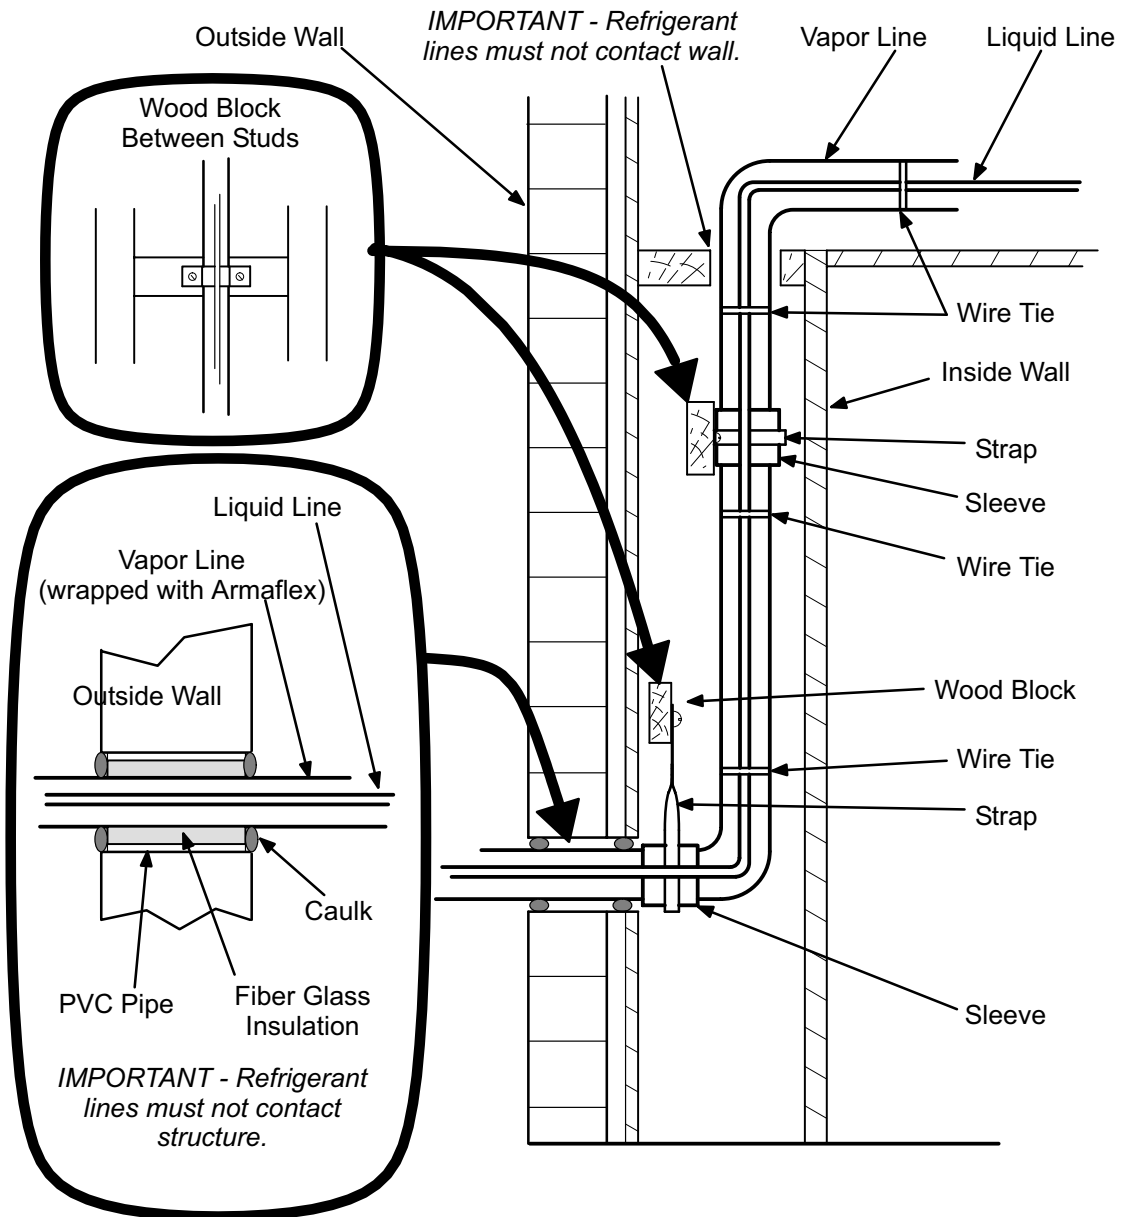
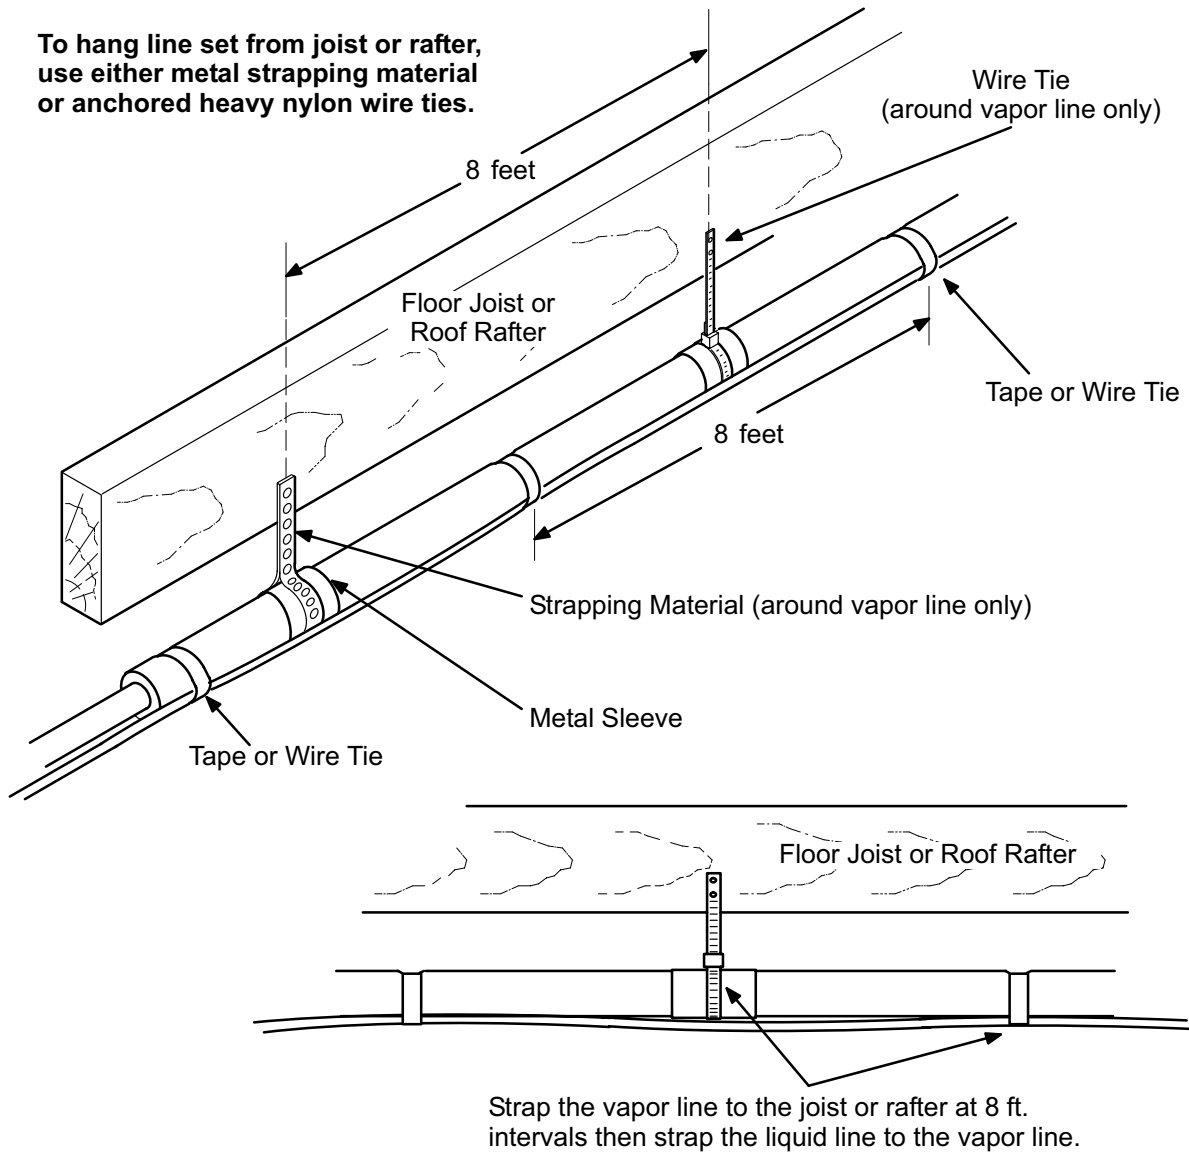
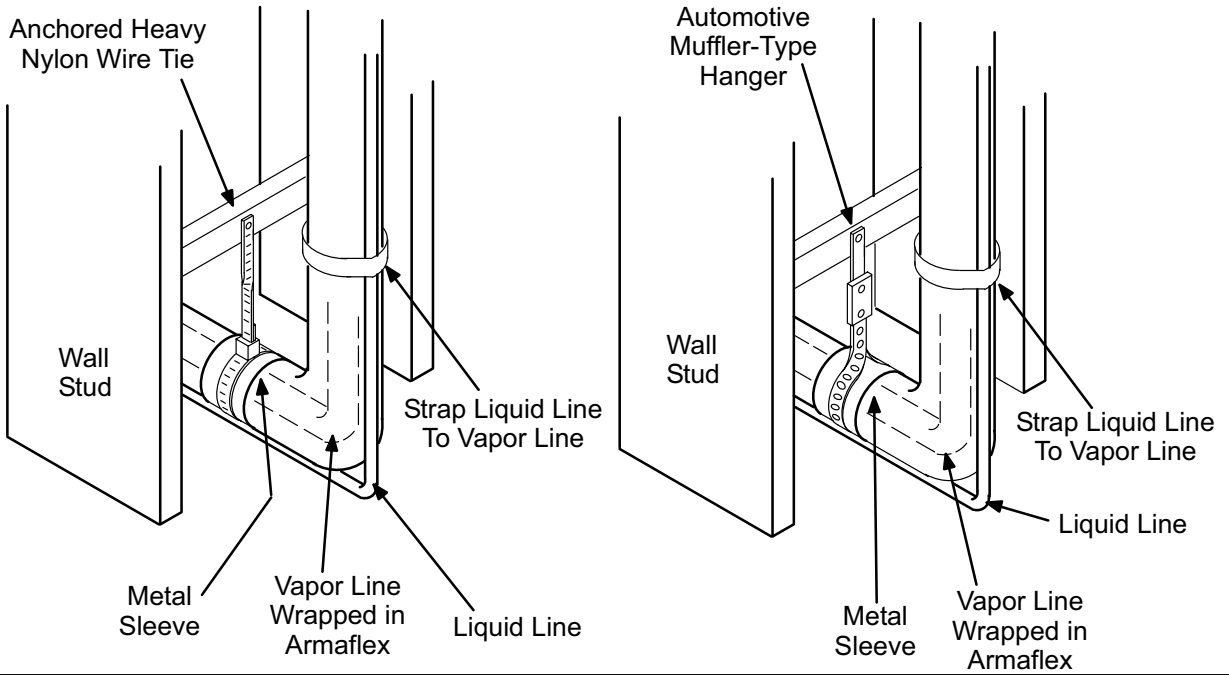
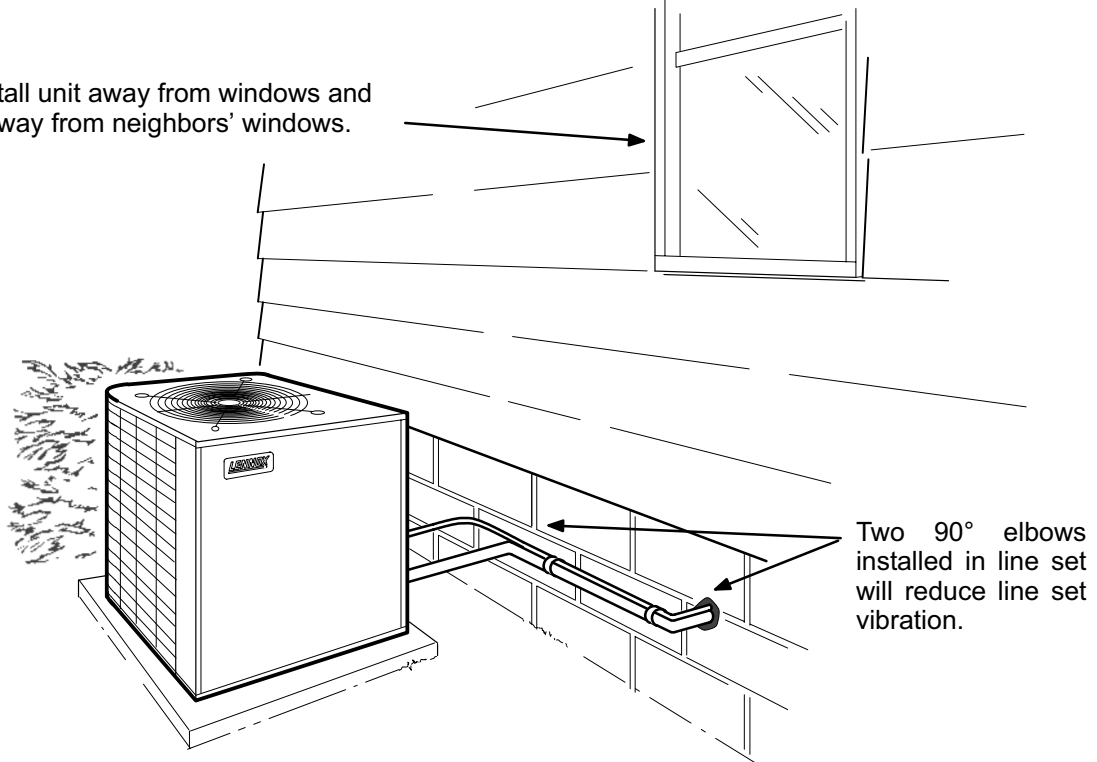

Figure 7
Figure 8
Figure 9
Figure 10
- 2- **Line Set Isolation** - The following illustrations demonstrate procedures which ensure proper refrigerant line set isolation. Figure 7 shows how to install line sets on vertical runs. Figure 8 shows how to install line sets on horizontal runs. Figure 9 shows how to make a transition from horizontal to vertical. Finally, figure 10 shows how to place the outdoor unit and line set.